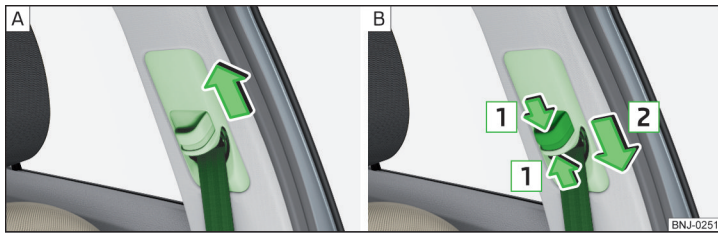

Fig. 17 Seat belt height adjusters for front seats
- › Push the seat belt guide loop **upwards** in the direction of arrow» Fig. 17 - [A].
- › Or: push together the mechanism in the direction of arrows **1** and push the return pulley **downwards** in the direction of arrows **2**» Fig. 17 - [B].